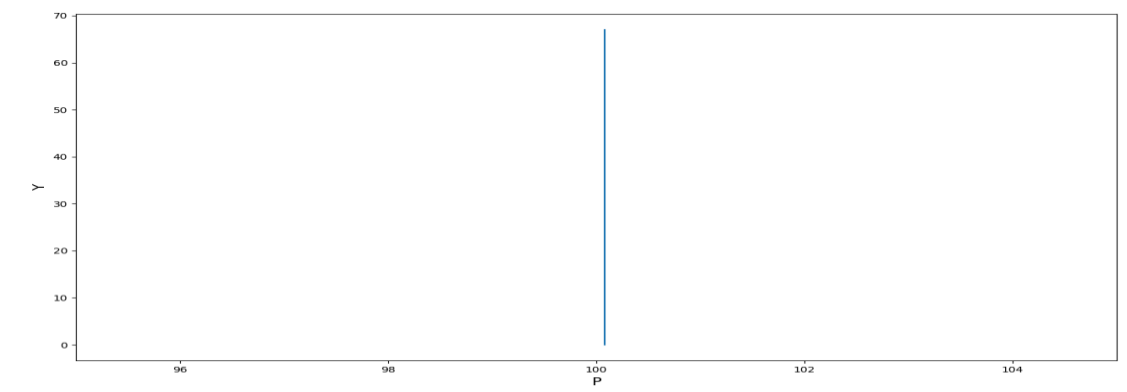

Figure 5: Pressure profile with X at mid-y at steady state
- Figure 5. Shows that along y, there is no change of pressure